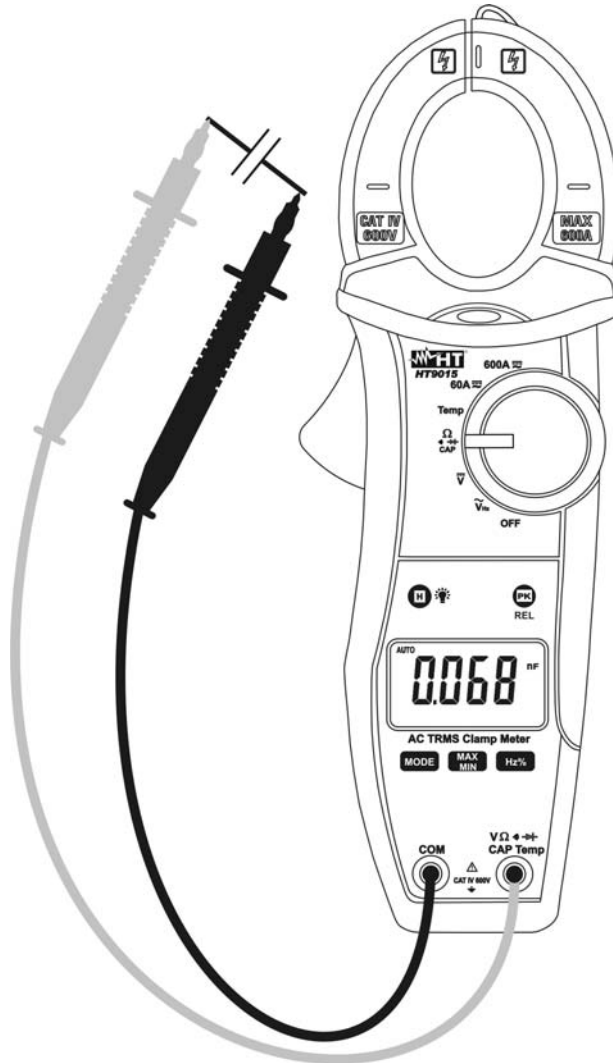

Fig. 7: Taking Capacitance measurement
3. Insert the red test lead plug into $V \Omega \cdot \text{Hz} \cdot \text{Temp}$ jack and the black test lead plug into **COM** jack (Fig. 7)